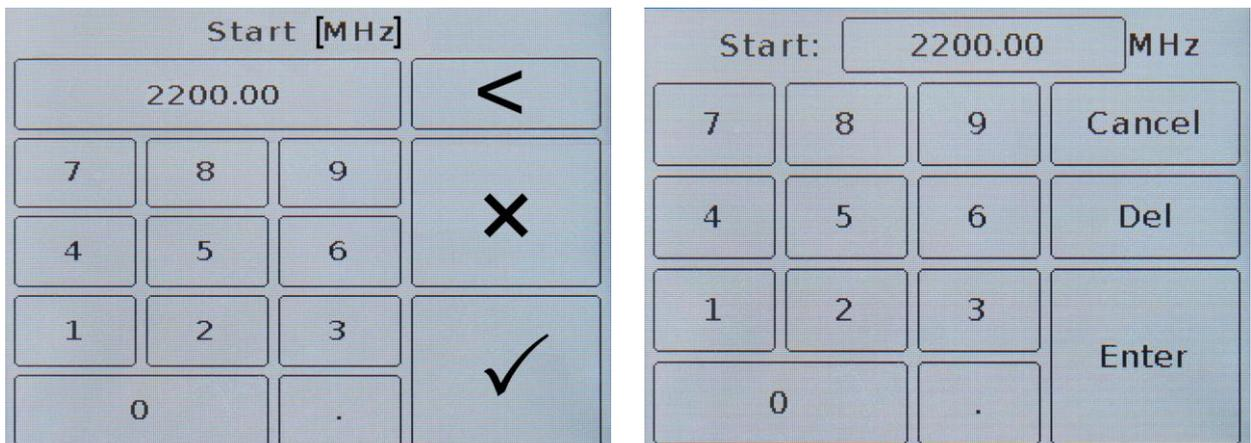

Figure 9.3 – Entering numerical values of frequency parameters of ARINST VR 1-6200 and ARINST VR 23-6200
9.2.3. Setting the frequency parameters (**Center**, **Span**, **Start** and **Stop**) is done by entering a numerical value in the opened submenu, as in Figure 9.3. Enter the numerical value of the frequencies and press **✓** or **Enter**. To delete erroneous or previously entered values, press **×** or **Del**. To refuse to enter a value, click **<** or **Cancel**. *In our example, in figure 9.3, the initial frequency of 2200 MHz of the scanned frequency range is set.*